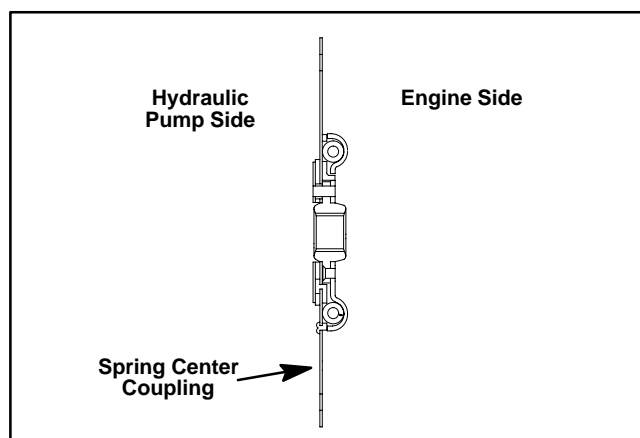

Figure 18
4. Position spring center coupling (coil springs toward engine (Fig. 18)) over dowels. Secure coupling to coupling spacer with cap screws and lockwashers. Torque cap screws from 35 to 43 ft-lb (48 to 58 N-m).